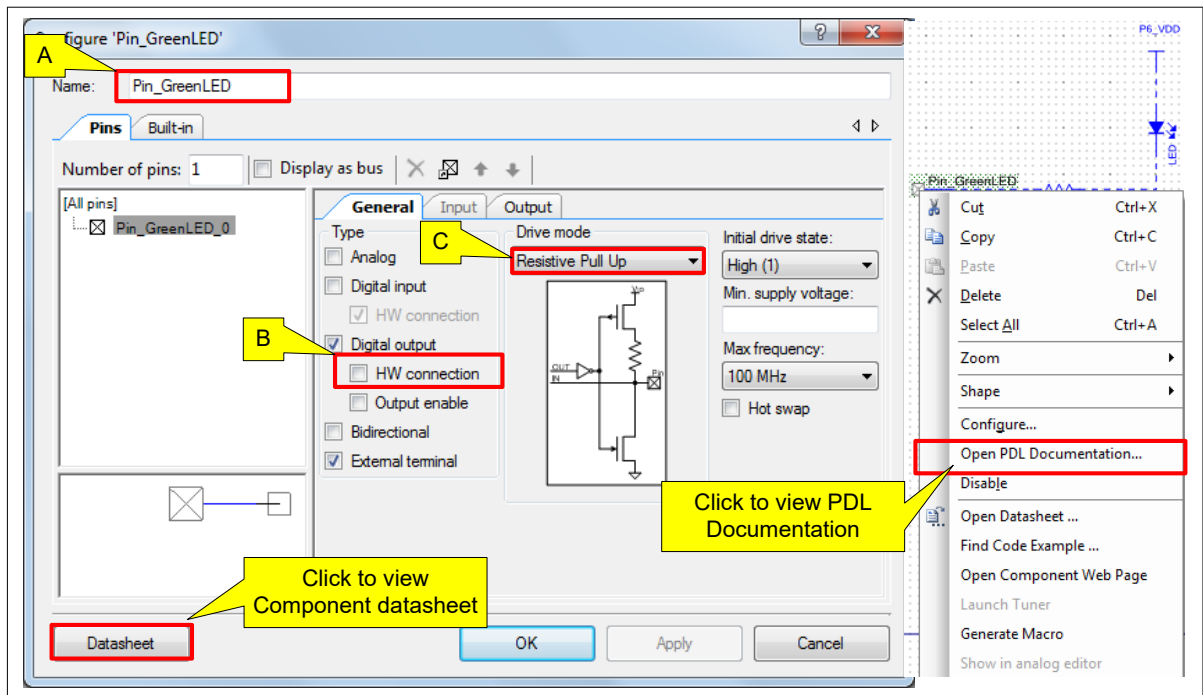

Figure 15 Configuring an output pin component
The output pin drives the LED. The LED on the PSoC™ 6 Wi-Fi-BT Pioneer Kit is active LOW; that is, the logic HIGH pin-drive state turns OFF the LED, and the logic LOW pin-drive state turns it ON. Figure 15 shows the configuration
- You can open the API reference document of the associated PDL driver of a Component by right-clicking the Component and clicking on **Open PDL Documentation...** link. See Figure 15.